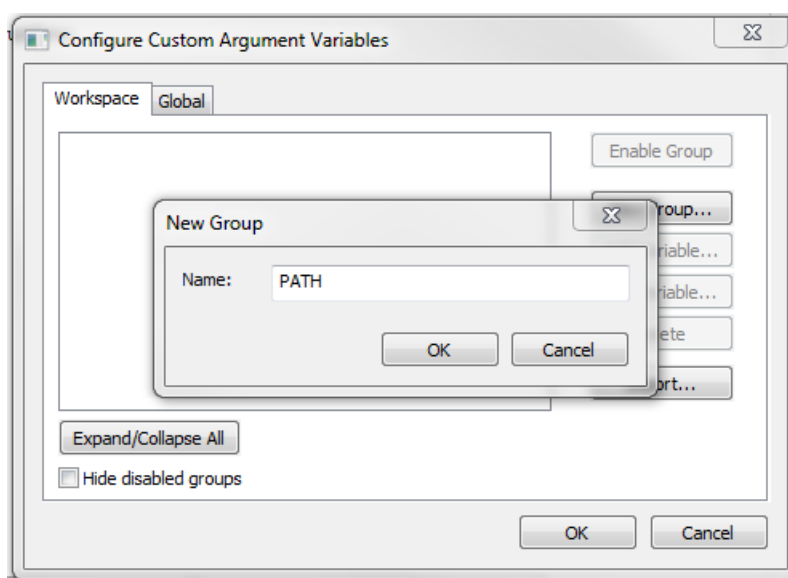

Figure 1-40. New Group
2. Click the New Group button, and another dialog appears. In this dialog, type the name of the group PATH, and click OK. See Figure 1-40.